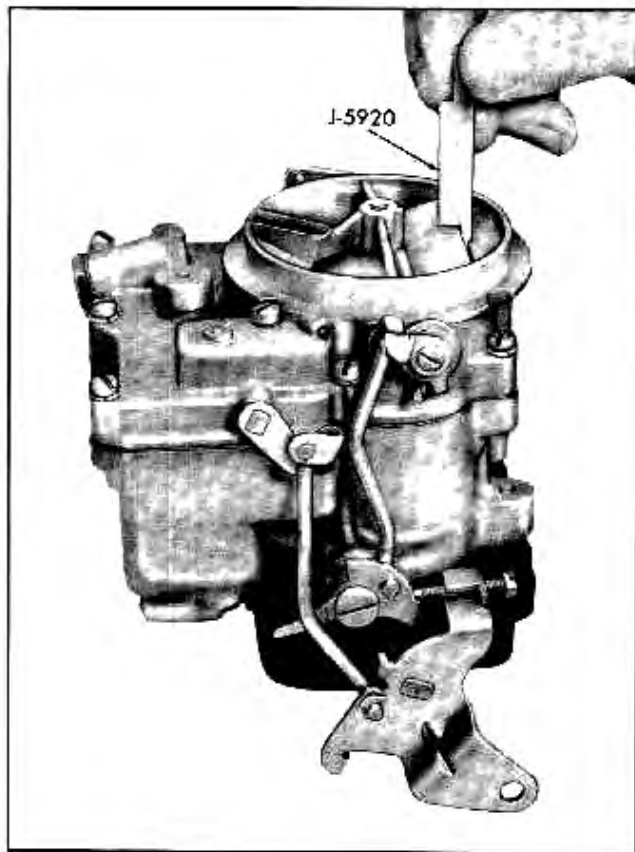

Fig. 6B-29 Choke Rod Adjustment
20. Adjust choke rod as follows: With the thermostat cover set at index and choke trip lever in contact with choke rod lever locate the idle stop screw against the second step of the fast idle cam, next to the shoulder of the highest step. Bend the choke trip lever tang so that the small end of gauge J-5920 or $\frac{1}{16}$ " drill just fits between the inner side of the air horn and the upper edge of the choke valve (Fig. 6B-29). Specification .051" to .071".